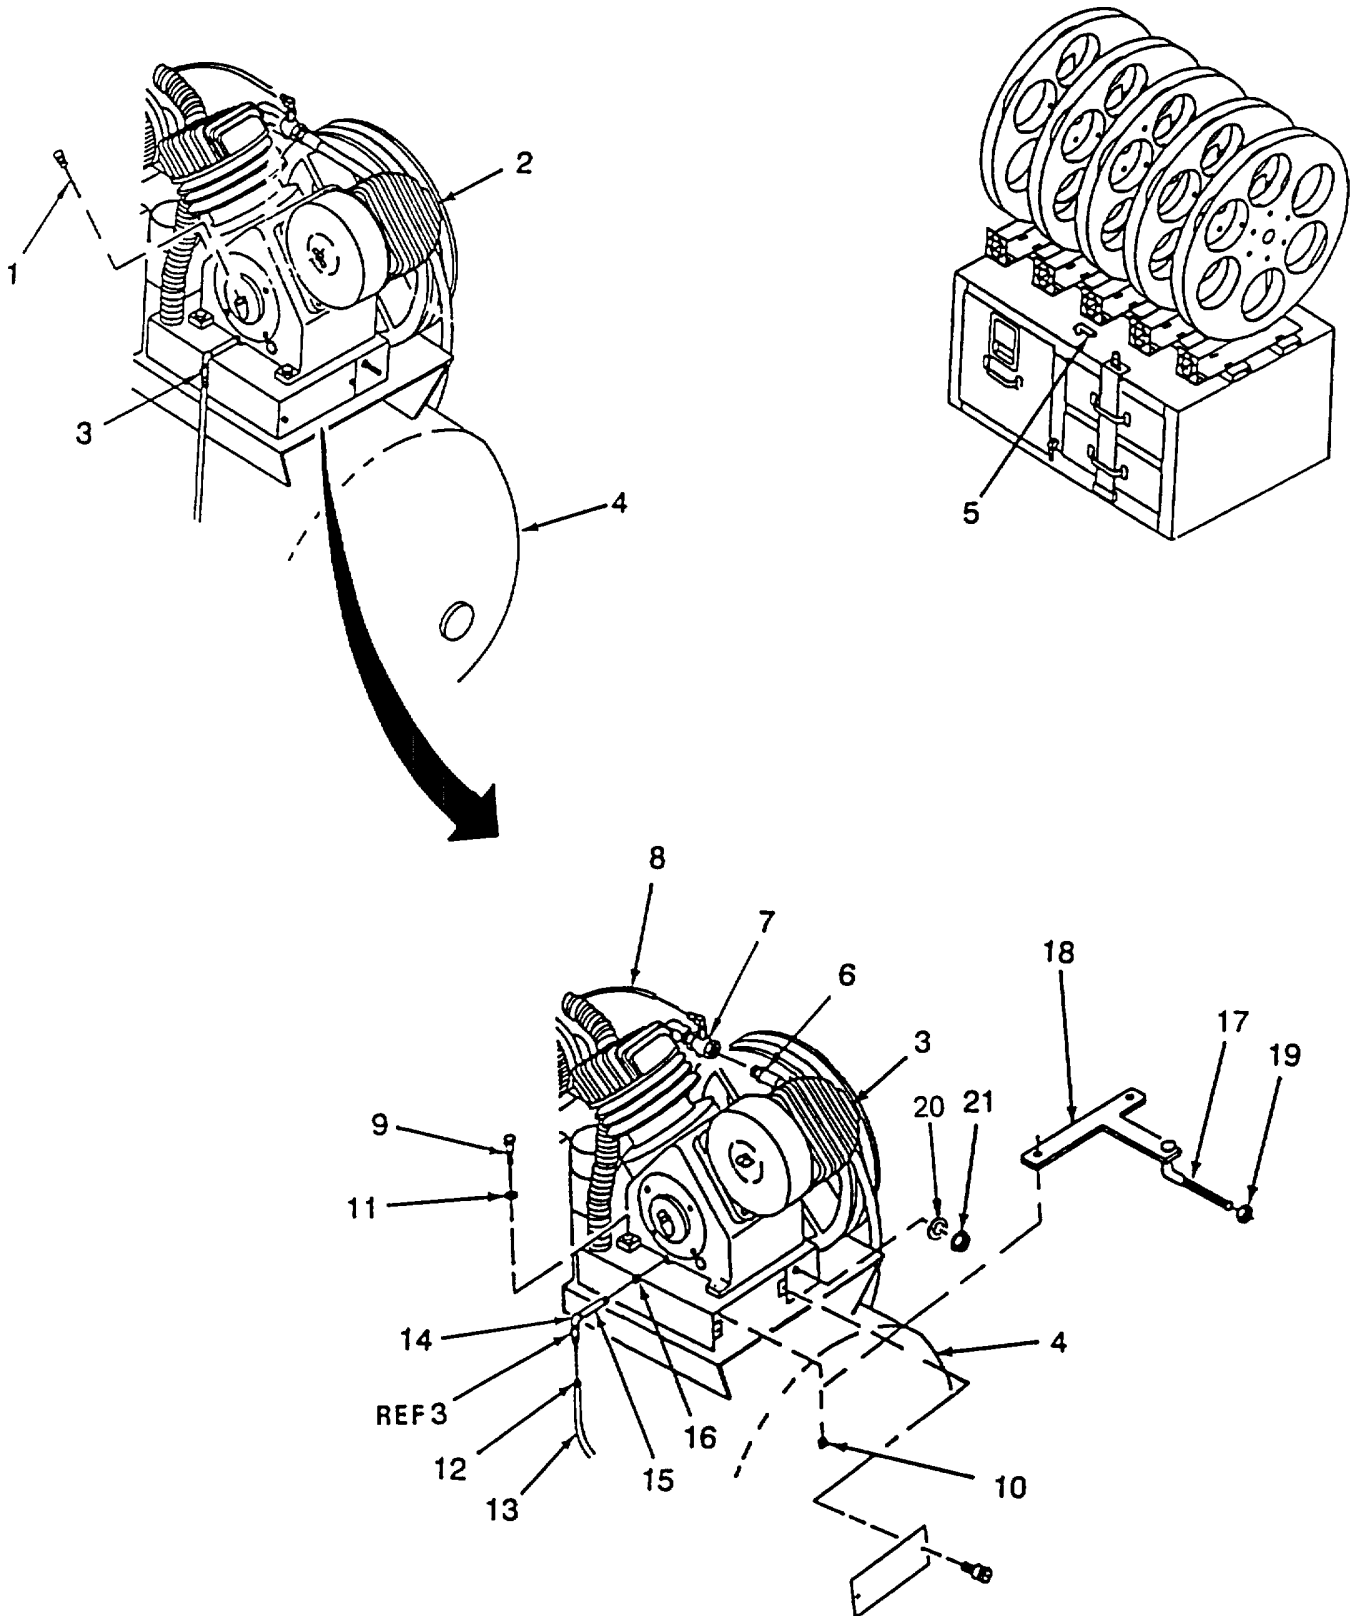

Figure 4-25. Air Pump
a. Servicing. (Refer to Figure 4-25).
- (1) Remove dipstick (1) from side of air compressor (2).
- (2) Drain air compressor oil by opening drain valve (3), and drain it into a suitable container.
- (3) Close drain valve (3).
- (4) Refill oil reservoir on air compressor (2) to proper level (Refer to LO 5-4930-244-12)